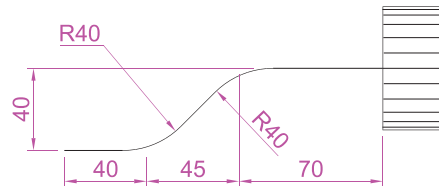

Fig. 18.3 First example – Extrude faces tool – first stages
2. In the **ViewCube/Right** construct a cylinder of radius 30 and height 30 (Fig. 18.3).
3. In the **ViewCube/Front** construct the pline shown in Fig. 18.3. Mirror the pline to the other end of the cylinder.